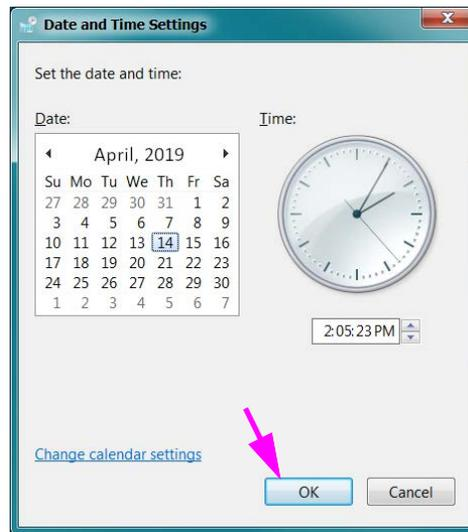

Figure 2-32. Date and Time Settings Dialog Box
2. Click the **Change Date and Time...** button. The Date and Time Settings dialog box appears. See Figure 2-32.